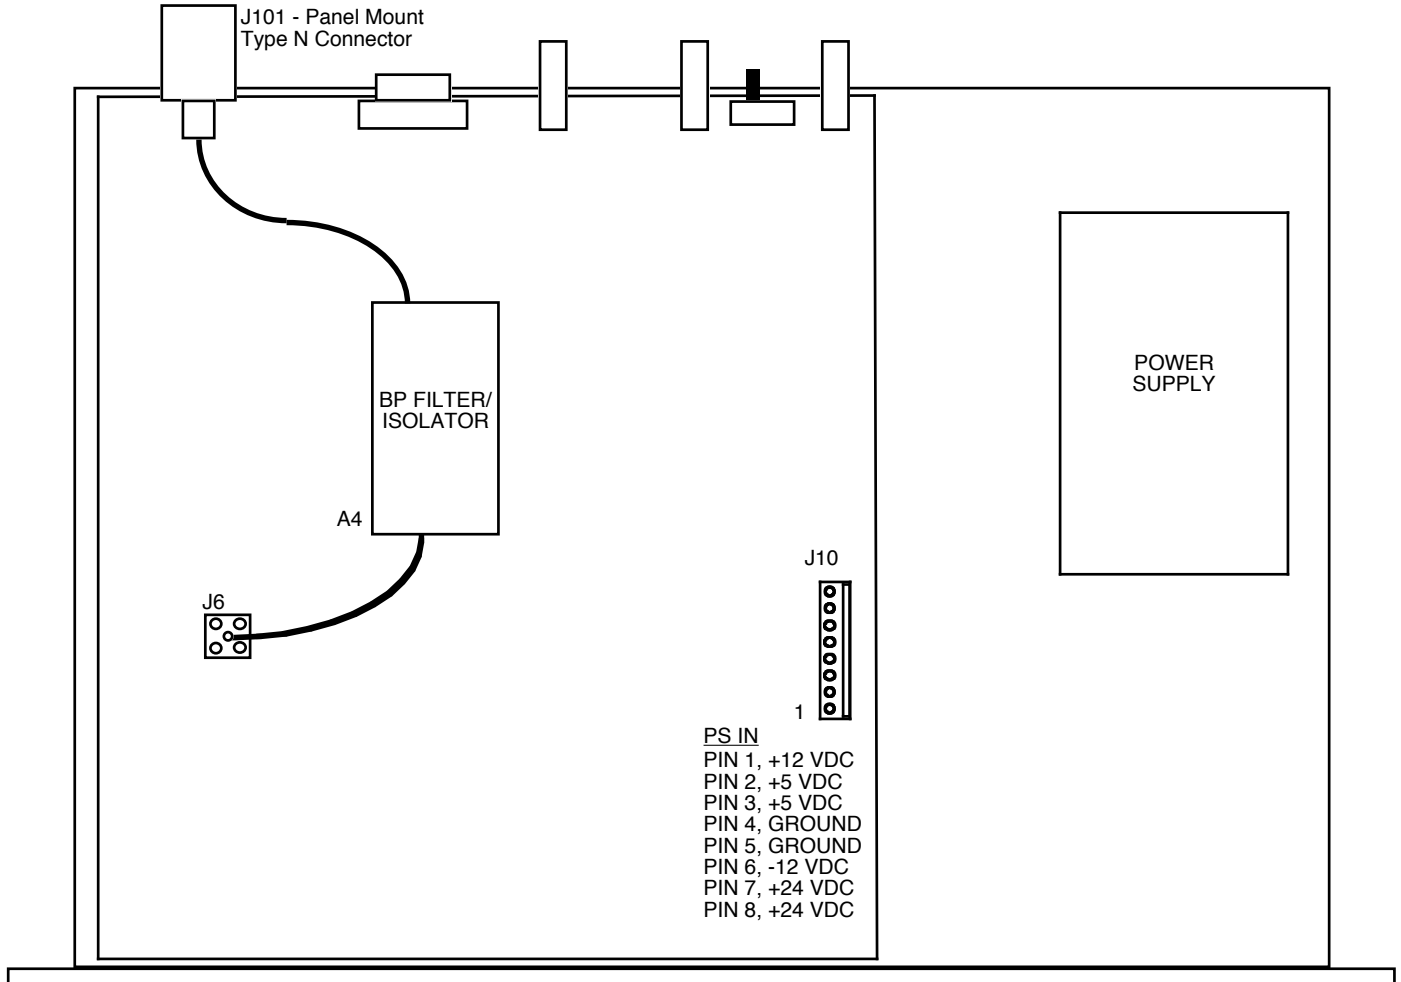

FIGURE 2.0 2116-182202 Mechanical Assembly
2.1 Mechanical - The 2116-182202 consists of one RF PCB housed in a 1 RU (1 3/4 inch high) by 14 inch deep chassis. A switching, ± 12 , +24, +5 VDC power supply provides power for the assemblies. The 2116-182202 can be secured to a rack using the 4 holes on the front panel. Figure 2.0 shows how the 2116-182202 is assembled.